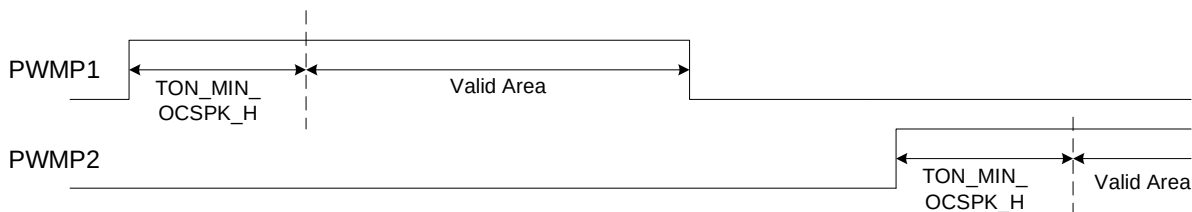

Figure 12: OCS PK_H
The CTRL_OC command configures the over-current (OC) spike function. The PWM t_{ON} is reduced when an OC spike occurs, and recovers after the OC spike condition is removed (see Figure 12). This protection cannot directly shut down the chip.